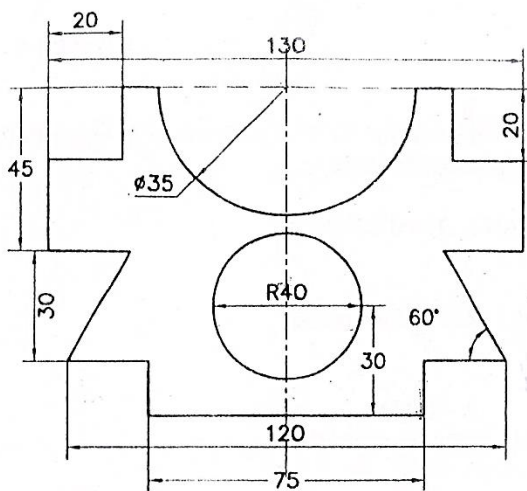

Figure 1.
1. Read the dimensional drawing shown in Figure 1. Redraw the Figure.1 and dimension it as per BIS.